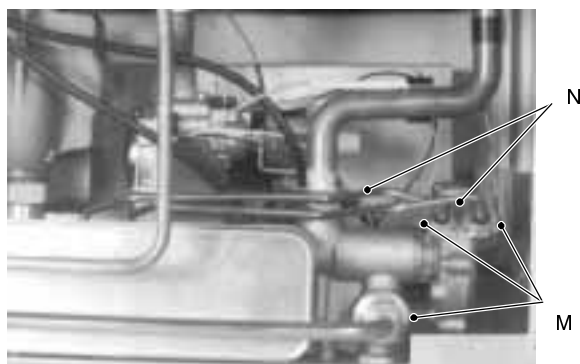

fig. 32
- 4 Remove the forks *M* and move away the pipes *N* (fig. 32).